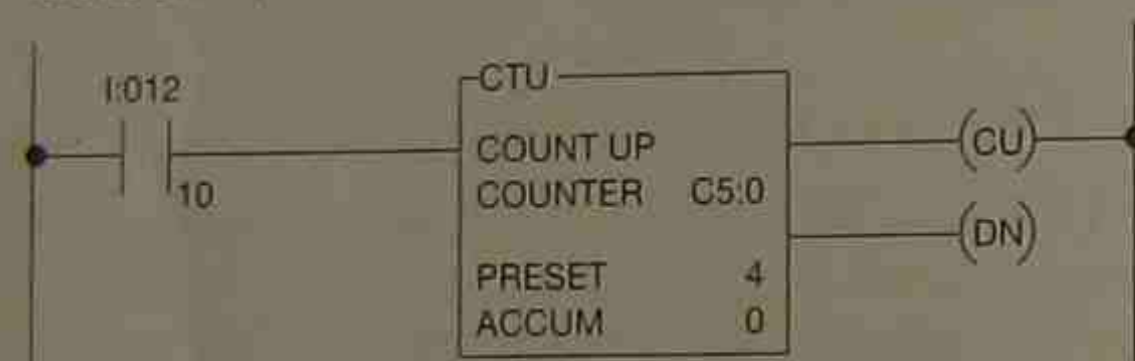

Figure 13-A
6. Output O:013/01, shown in Rung 2 of Figure 13-B, is true: